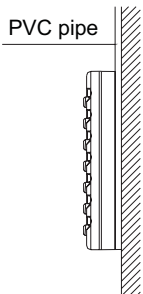
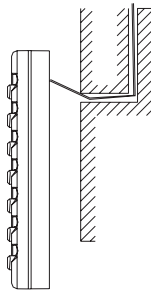

Fig.18
Fig.19
(1) Locate the installation position firstly, and then reserve a groove or hole for embedding of communication wire according to its dimension.
(2) If wired controller and indoor communication wire are mounted visibly, 1 # PVC pipe can be used and corresponding grooves should be set in the wall (fig.18).If in hidden, 1 # PVC pipe can be used (as shown in fig.19).
(3) Whether mounted visibly or in hidden, drill two holes (keep level) in the wall as the distance(60mm)between the two holes in underplate of wired controller, and then inset stopper into the holes through which the wired controller can be fixed. Insert communication wire in the control board. At last, clasp the controller panel.